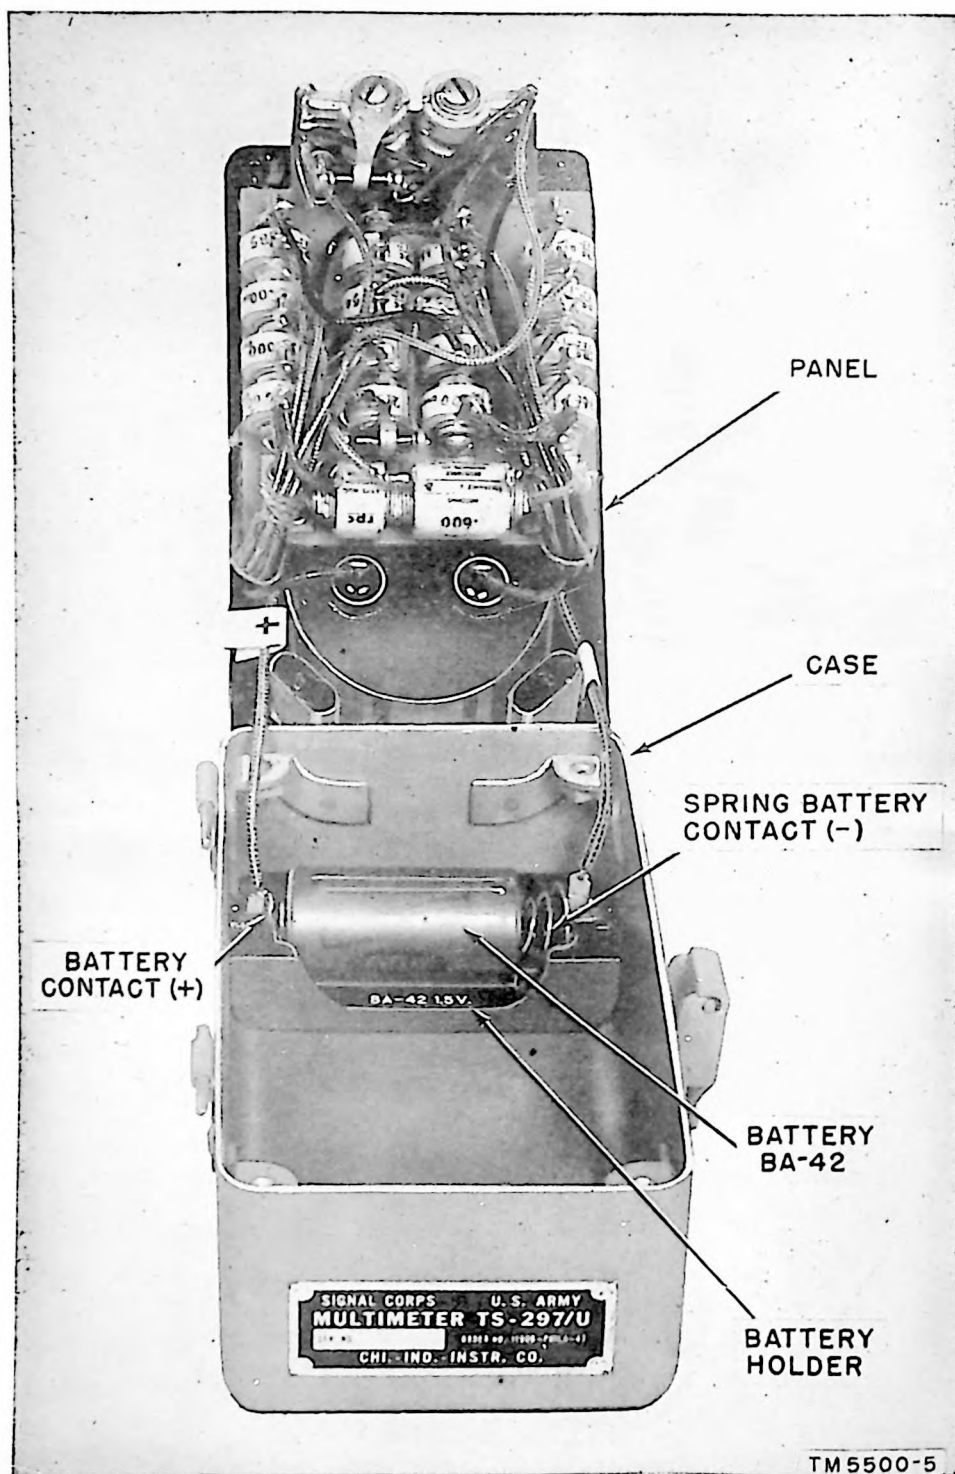

Figure 5. Multimeter, panel raised for installation of battery.
(2) *Case*. The case is aluminum and has a removable hinged lid fastened by a latch. A battery holder is located inside at one end of the bottom of the case (fig. 5). Brackets are provided at the corners for mounting the panel.
7. Installation (fig. 5)